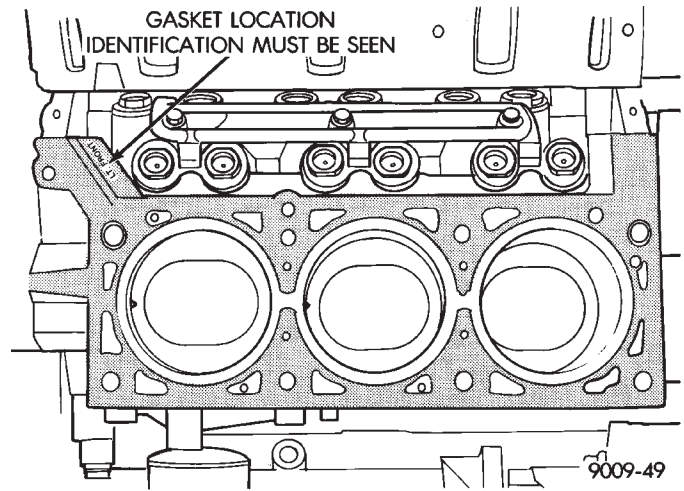

Fig. 9 Head Gasket Installation
(1) Clean all surfaces of cylinder block and cylinder heads.
(2) Install new gaskets on cylinder block (Fig. 9).